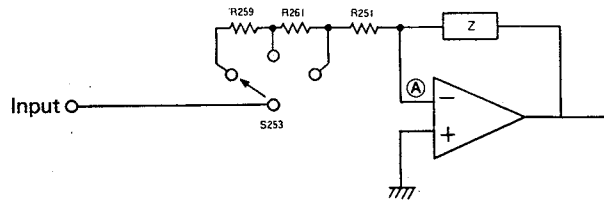

Fig. 10
In the circuit shown in Fig. 10, the voltage gain is adjusted by changing the input resistance by selecting a suitable one from input resistors R259, R261 and R251 (0 dB, -6 dB and -12 dB). Point Ⓐ in Fig. 10 is the imaginary ground point. Thus, the input signal voltage is converted into a current proportional to the reciprocal number of the input resistance value. Then, it is converted into a voltage with feedback impedance (Z) again. In this manner, voltage amplification is performed.